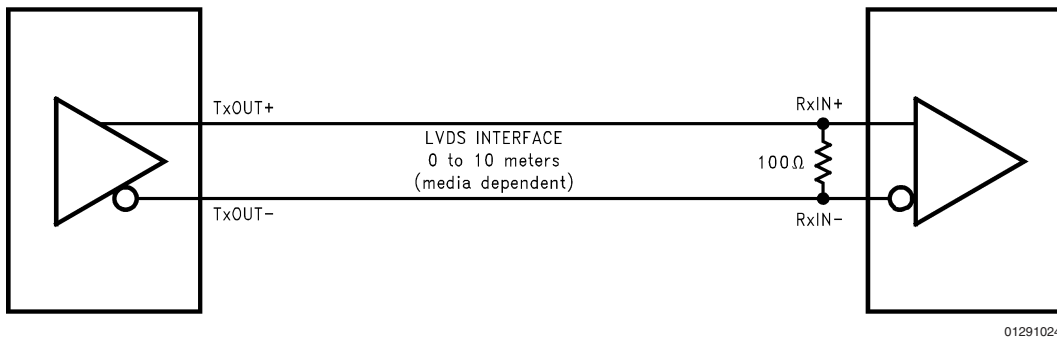

FIGURE 19. LVDS Serialized Link Termination
**TERMINATION:** Use of current mode drivers requires a terminating resistor across the receiver inputs. The CHANNEL LINK chipset will normally require a single 100Ω resistor between the true and complement lines on each differential pair of the receiver input. The actual value of the termination resistor should be selected to match the differential mode characteristic impedance (90Ω to 120Ω typical) of the cable. *Figure 19* shows an example. No additional pull-up or pull-down resistors are necessary as with some other differential technologies such as PECL. Surface mount resistors are recommended to avoid the additional inductance that accompanies leaded resistors. These resistors should be placed as close as possible to the receiver input pins to reduce stubs and effectively terminate the differential lines.